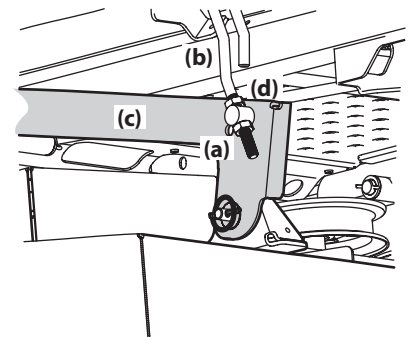

Figure 26
3. Loosen the lower nut (a) on the adjustable lift link (b) attached to the deck lift arm (c) to lower the deck and tighten the upper nut (d) to secure the deck in place, loosen the upper nut (d) then tighten the lower nut (a) to secure the deck in place. See Figure 26.